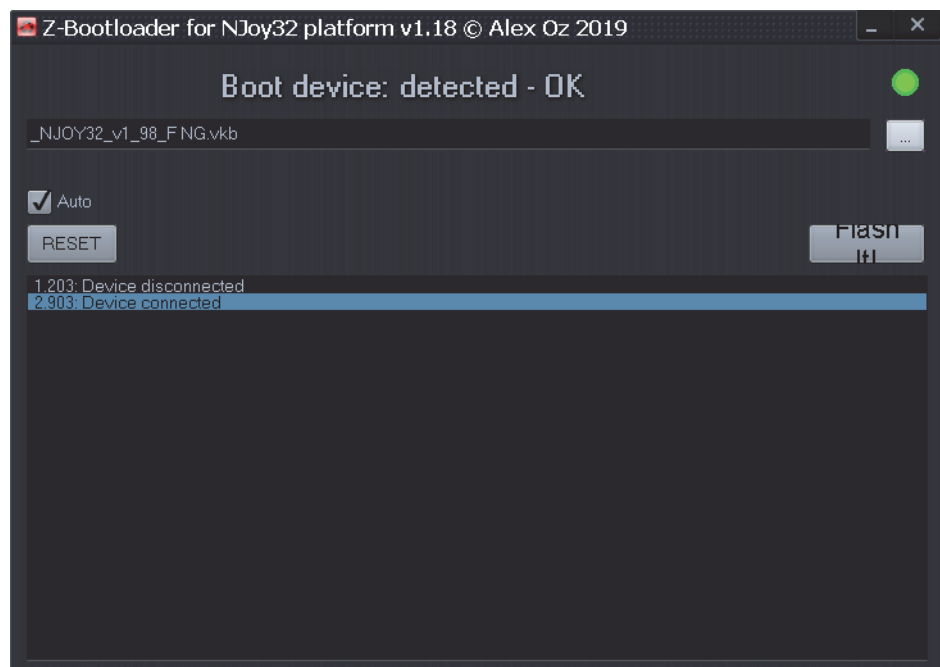

Fig. 2.3.
You will see firmware upgrade utility window (fig. 2.3)
5. You will see that device is connected (Fig. 2.3 on p. 17). Further actions are the same as described in sect. 2.2.1 on p. 17.